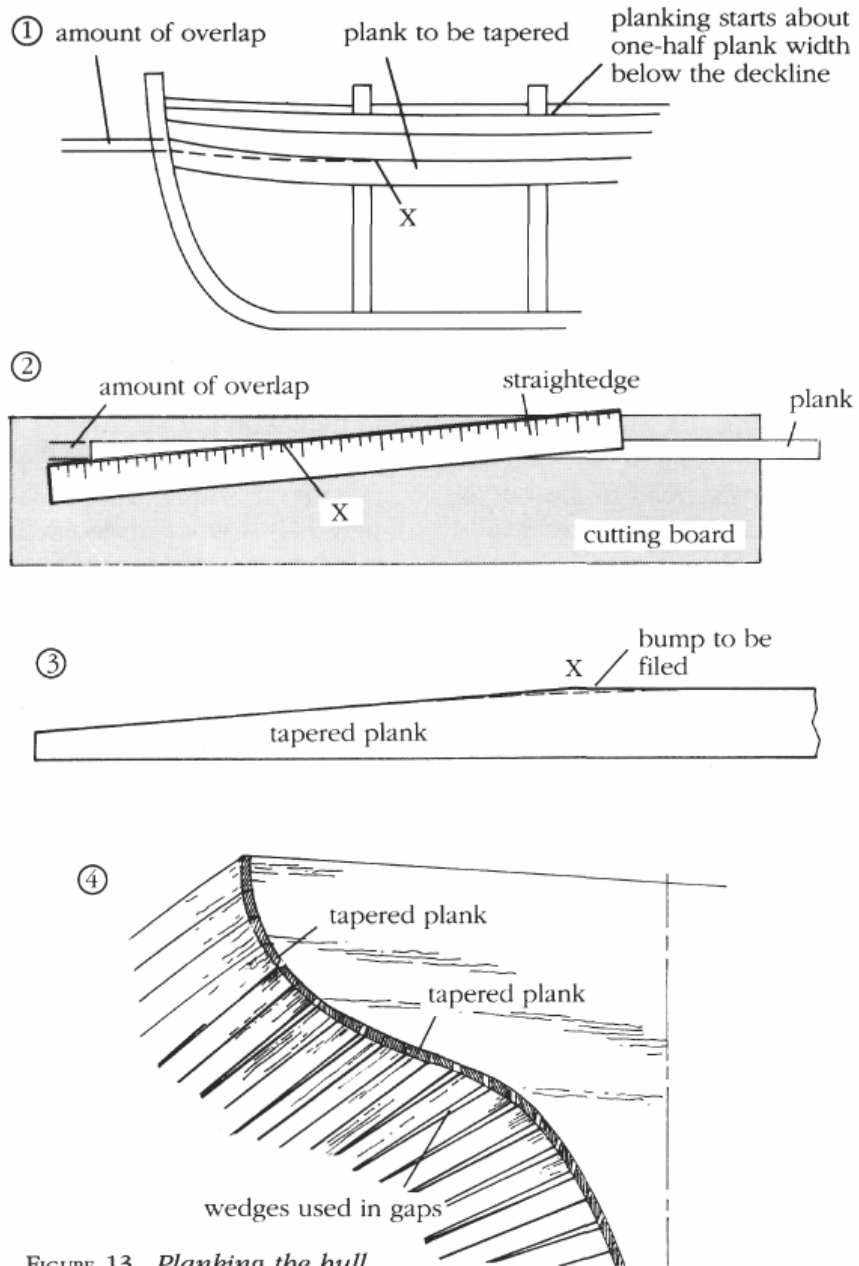

FIGURE 13. *Planking the hull.*
Figure 13 takes us through the proper planking procedure. Whether your kit has bulkheads that extend above the deck (to receive the bulwarks) or terminate flush with it, you must start the planking about one-half plank width below the deckline **(1)**. This will provide a firm hold for your bulwark, as we will see later.
Some stern planks won't need to be tapered. But when they do, follow the procedure we used for tapering planks at the bow. Never force a plank out of its natural line; let it fall as it will over the frames, and taper as necessary. Check how the planks fit at the stern before gluing them in place. You will often find that you must leave a space [(4) in Figure 13] now and then, depending on the shape of the hull at the stern. These spaces will be filled with the wedges that you cut off at the bow end.